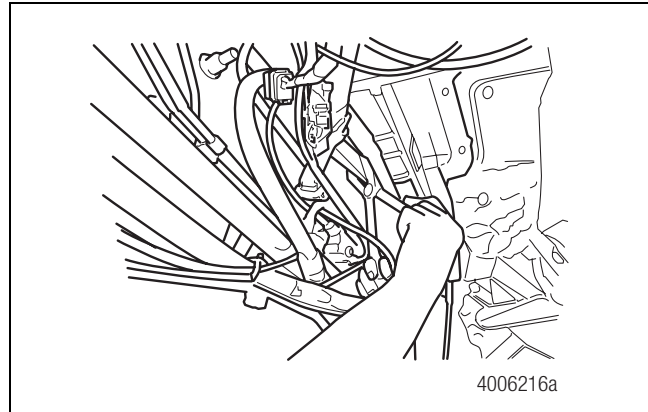

Figure 4.25
7. Use hose clamp pliers to clamp the rubber hose at least three-inches (76 mm) away from the entrance to the HCU reservoir. Use care to avoid damage to the plastic reservoir nipple inside the hose. Figure 4.25.